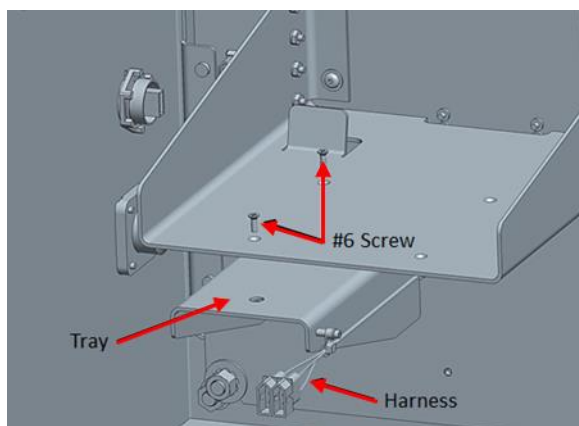

Figure 19: Battery Bracket Attachment
2. Attach the bracket to the bottom of the DustTrak Monitor Shelf. If one battery is used, attach the bracket to the left side. If two batteries will be used, attach a second bracket to the right side. The second bracket does not need a battery power cable. See Figure 19.